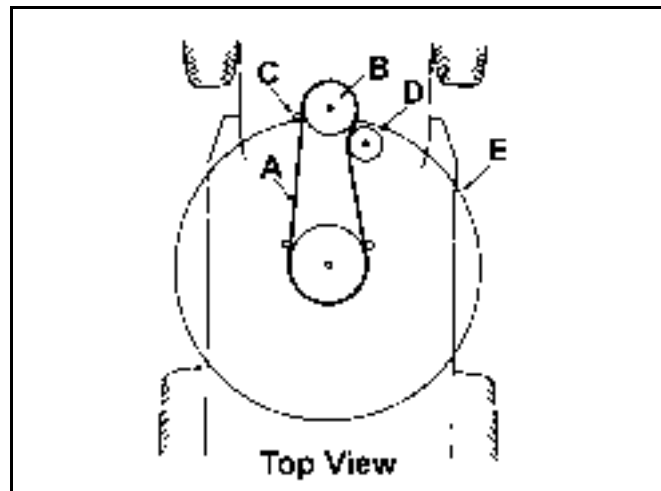

Figure 200
- Remove the mower belt from the lower engine pulley (Figure 200). If you are careful, you can flex the belt guide(s) just far enough away from the pulley to remove the belt. If it is too difficult to remove the belt, loosen the bolts and nuts securing the belt guides.
- Install the mower belt onto the lower engine pulley (Figure 200). If you are careful, you can flex the belt guide(s) just far enough away from the pulley to install the belt. If it is too difficult to install the belt, loosen the bolts and nuts securing the belt guides.